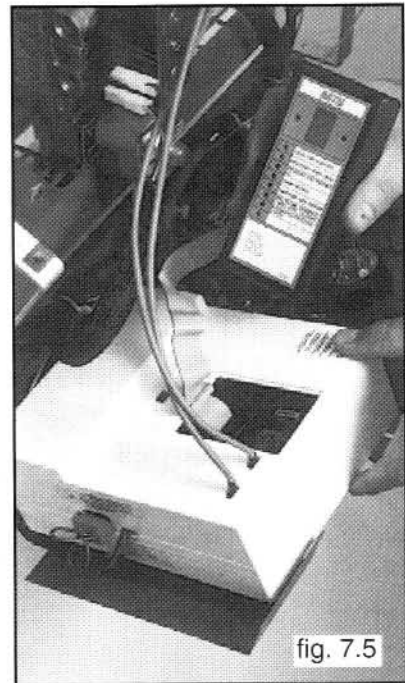

fig. 7.5
- 4 Connect the black connector to the electronic PCB (see fig.7.5).